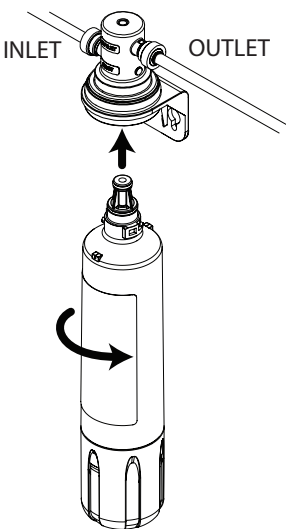

Figure 5
①
② Backstop
③ Collet
④
- Insert blue tubing from the 1/4" Feedwater Adapter into the filter INLET fitting as shown in Figure 5. Refer to the "Using Push-In Fittings" section for detailed instructions.
- Insert tubing from faucet into the filter OUTLET fitting as shown in Figure 5. Refer to the "Using Push-In Fittings" section for detailed instructions.
- Align tabs of replacement filter with head assembly and insert replacement filter into head assembly. Turn replacement filter to the right (clockwise) until it stops (about 1/4 turn). The filter is now installed. (See Figure 5).
- Turn water supply back on from the shutoff valve on cold water line. This will pressurize the filter system and begin sending filtered water to the faucet. Look for leaks. **If leaks occur, see Troubleshooting Guide. Flush the filter for four (4) gallons (approx. 5 minutes).**